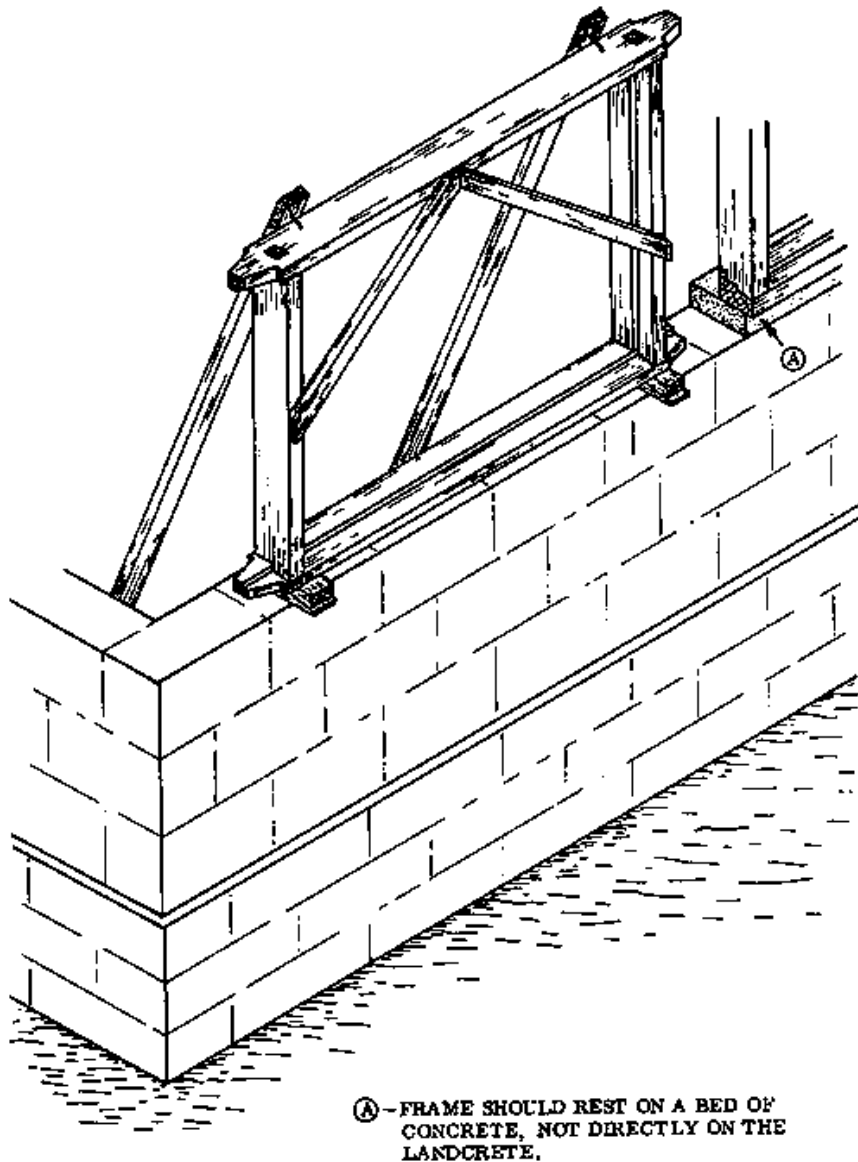

Fig. 1
- **INSTALLING THE FRAMES DURING THE WALL CONSTRUCTION:** When the blockwork has reached window cill level, the frames can be set and aligned in the same way as a door frame. The chief difference is that in the window frame the horizontal members are usually longer than the vertical members, and for that reason more attention is given to levelling the head and cill of a window frame than to levelling the head of the door frame (Fig. 1).